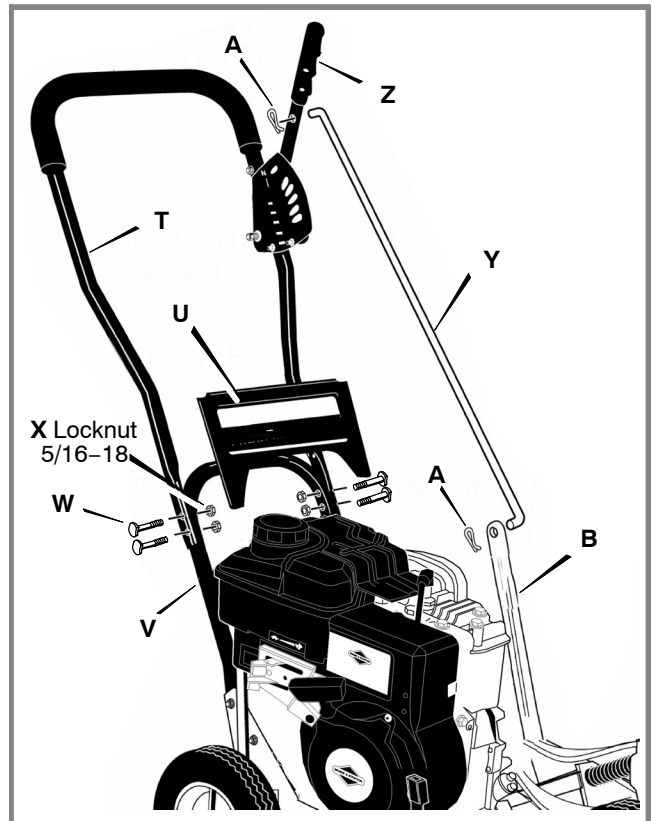

Figure 7: Handle Assembly
- 5 Assemble the upper handle (T) and the handle panel (U) to the lower handle (V) with the fasteners (W, X) shown in Figure 7. Make sure the locknuts (X) are on the inside of the lower handle.
- 6 Slide one end of the clutch rod (Y) from left to right through the hole in the clutch lever (Z). Secure with the hair pin (A) shown in Figure 7.
- 7 Move the clutch lever to the first depth position. Attach the other end of the control rod to the quill support arm (B) with the hair pin (C) as shown in Figure 7.